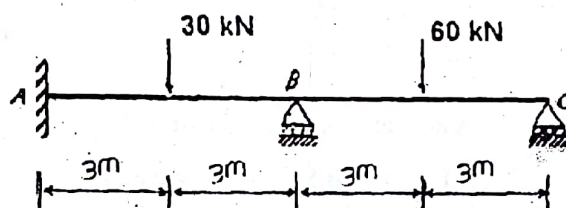

Fig. Q. 12 (a)
12. (a) Analyse the continuous beam shown in Fig. Q. 12 (a) using displacement method. EI is constant throughout.